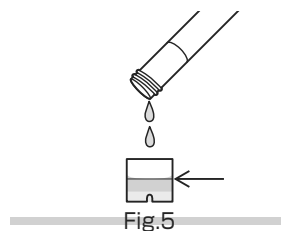

Fig.5
5. Take out the Cell, discard the pure water, and pour the whole amount of the prepared solution to the same Cell. (Fig.5)